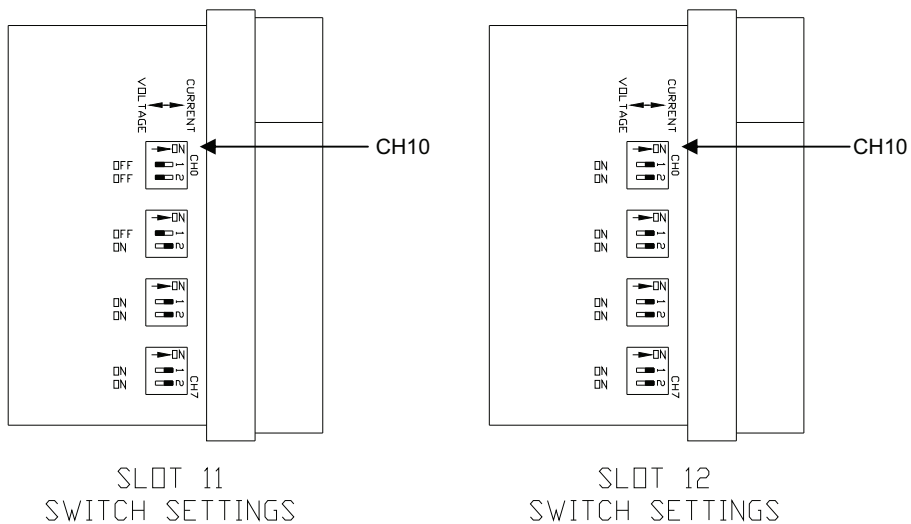

Figure 7. Analog Output Module Switch Settings.
- a. On the new module, set the jumper switches CH7, CH8, CH9 and CH10 to the settings illustrated in Figure 7 for installation in slot 11 or slot 12.